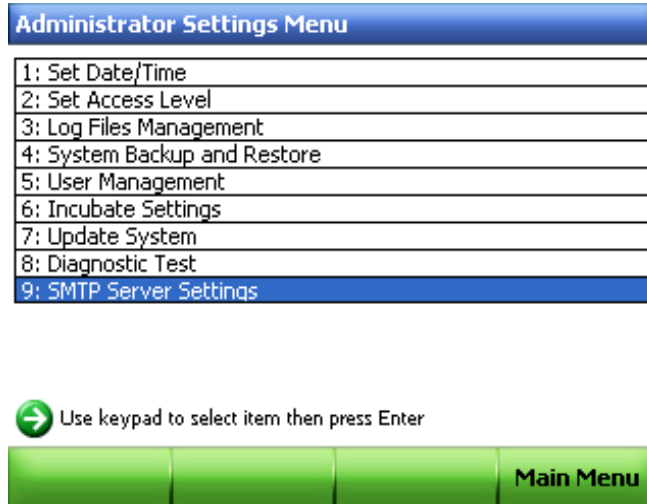

Figure 24. The Administrator Settings Menu.
4. In the **Administrator Settings Menu**, select **9 (SMTP Server Settings)** as shown in Figure 24.